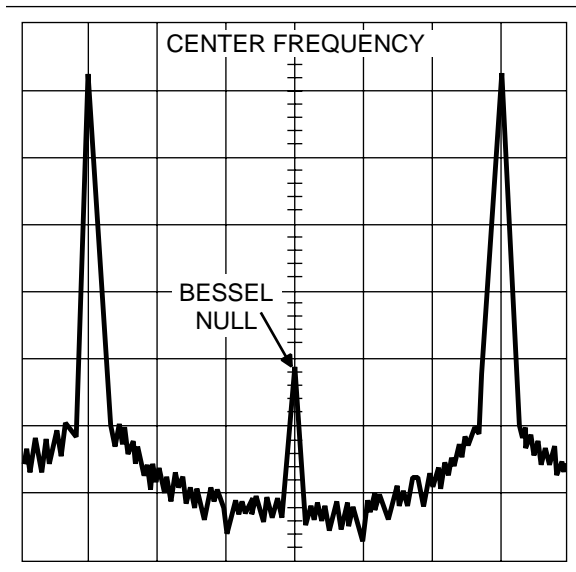

Figure 4-14. Typical Spectrum Analyzer Display of a Bessel Null on an FM Waveform
- e.** While observing the first Bessel null (Figure 4-14) on the Spectrum Analyzer display, adjust the value of the DAC's setting to reduce the carrier level as low as possible.
- f.** While observing the first Bessel null (Figure 4-14) on the Spectrum Analyzer display, adjust the value of the DAC's setting to reduce the carrier level as low as possible.